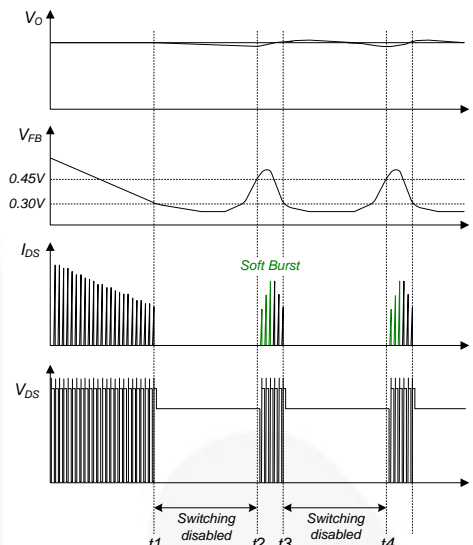

Figure 25. Burst-Mode Operation
5. Soft Burst Mode: To minimize power dissipation in Standby Mode, the FSL117MRIN enters Burst Mode. As the load decreases, the feedback voltage decreases. The device automatically enters Burst Mode when the feedback voltage drops below V_{BURL} (300 mV), as shown in Figure 25. At this point, switching stops and the output voltages start to drop at a rate dependent on standby current load. This causes the feedback voltage to rise. Once it passes V_{BURH} (450 mV), switching resumes. Feedback voltage then falls and the process repeats. Burst Mode alternately enables and disables switching of the SenseFET, reducing switching loss in Standby Mode.